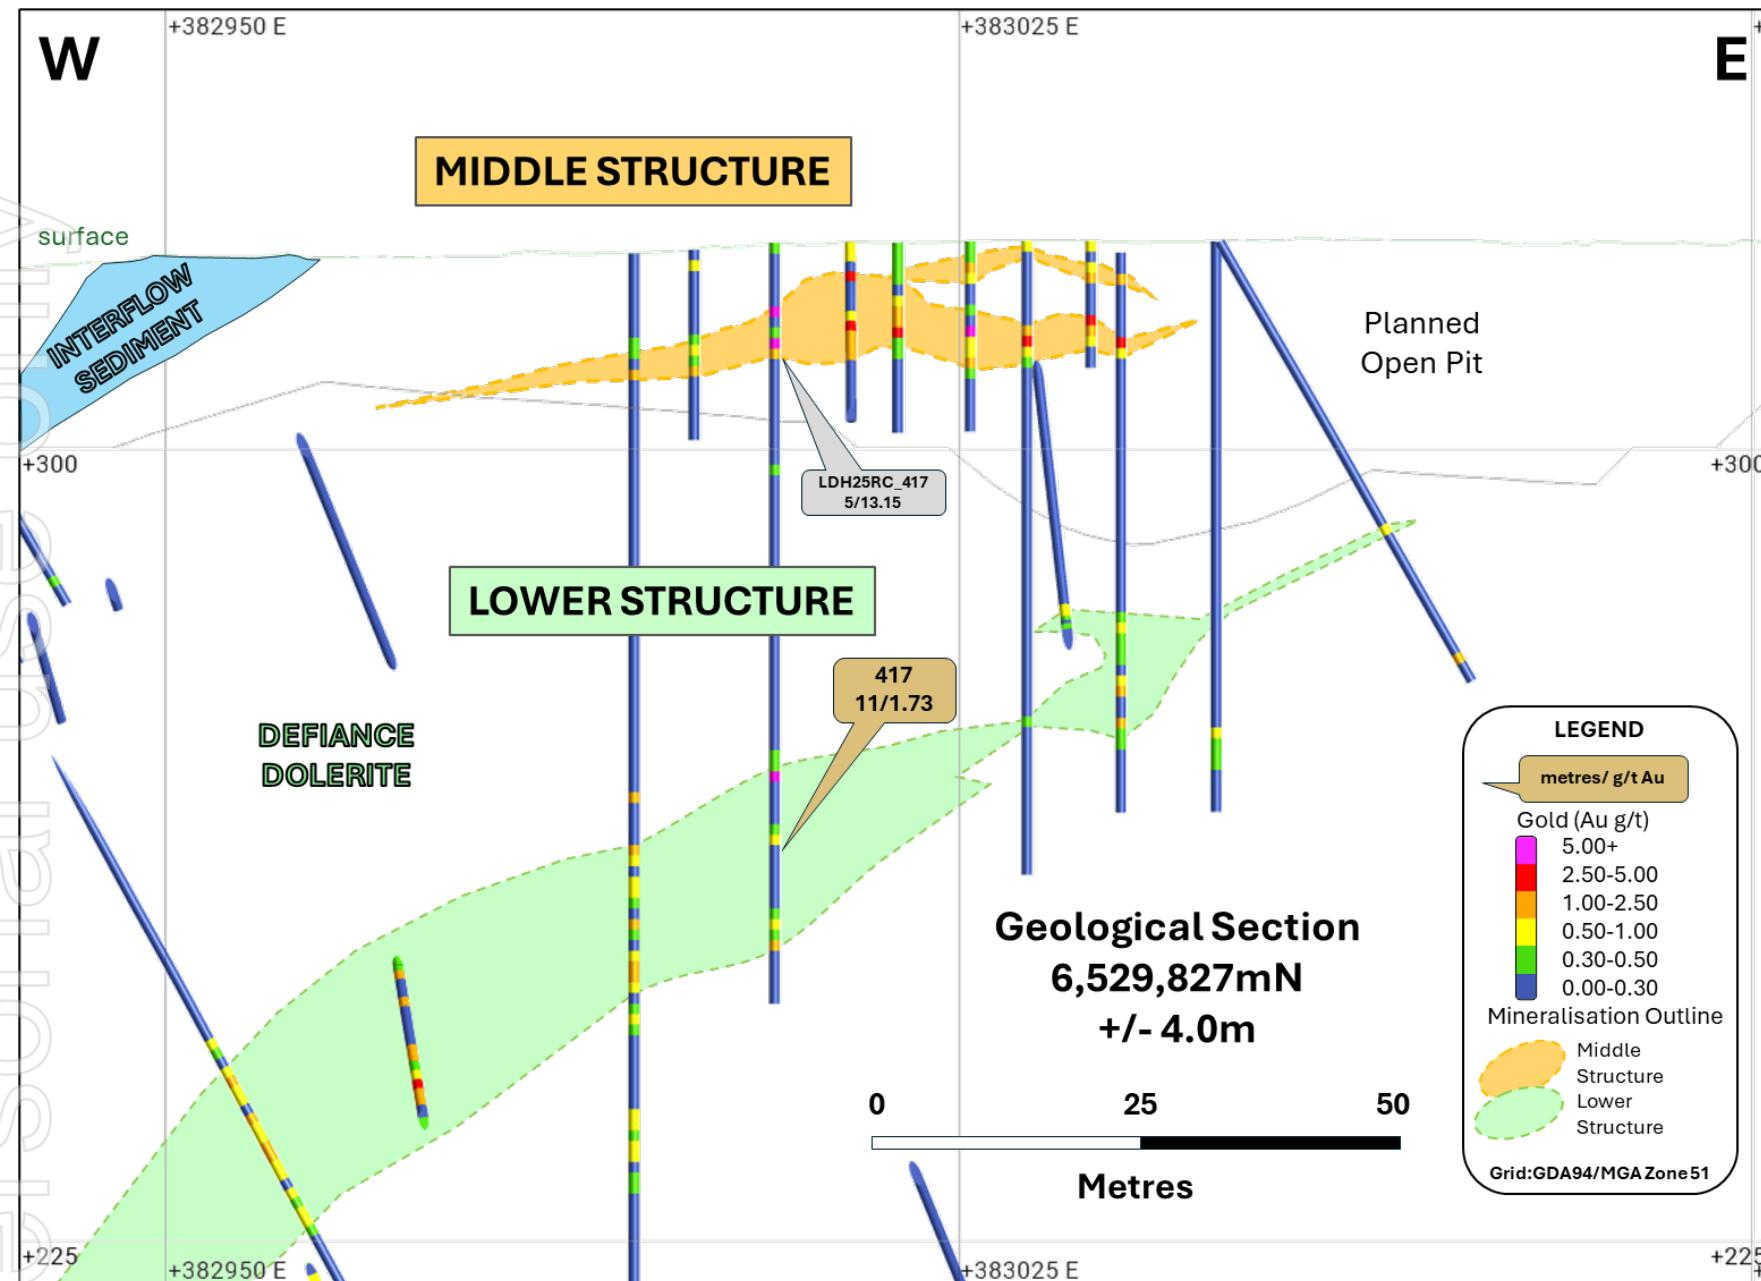

Figure 6: Section 6,529,827mN (looking north $\pm 4\text{m}$) illustrating the results reported today (gold call-outs).
As shown on the cross sections in **Figures 4** and **5** (see pages 5 and 6), the presence of thick gold mineralisation on both structures would significantly reduce the potential strip ratio of any future open pit cut-back to the northwest. The opportunity to expedite regulatory approval for any such cut-back, given it would largely fall within the recently approved and fully permitted development footprint, will also be evaluated. Full results are detailed in Annexure 2, including two additional significant results on the Lower Structure, also indicating gold potential below the current open pit on that structure (**Figures 6** and **7**).
- **Middle Structure – Figure 6:** section 6,529,827mN highlighting one result which represents an extension to an existing and previously reported drill hole through the Middle Structure and into the Lower Structure below the current planned pit.